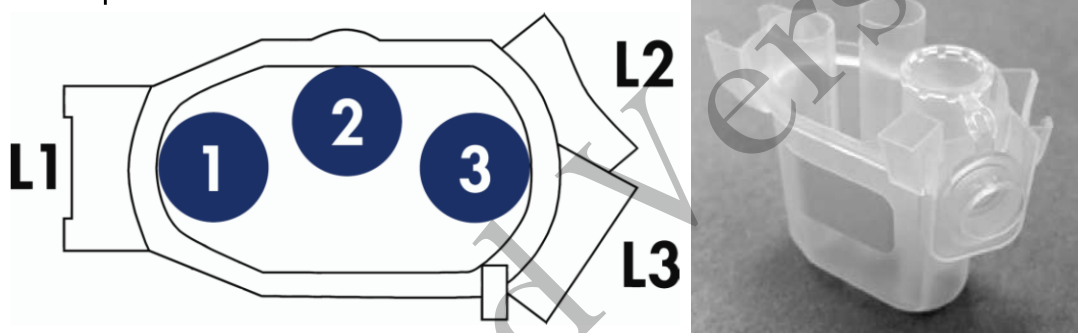

FIGURE 2 - QIAcube ROTOR ADAPTER
- Place the 1.5 mL Spin basket or Qiagen snap cap tubes containing the lysate into position 3 of the rotor adapters. Bend the cap of each tube back and insert it into the cap holder in position L3 (see Figure 2 below).